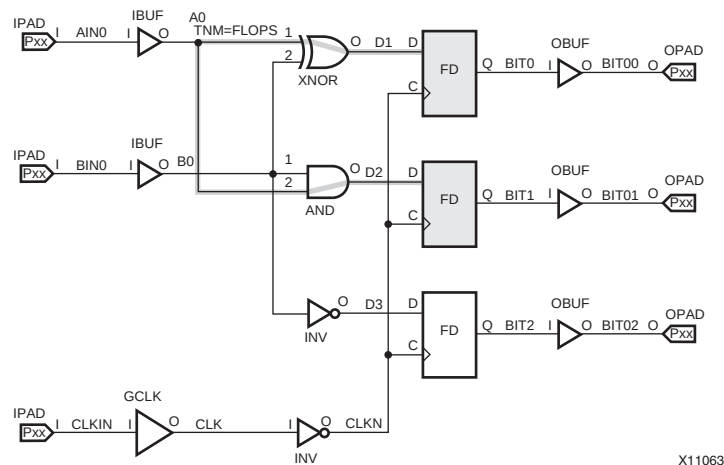

Figure 3-3: TNM on the CLK net traced through combinatorial logic to synchronous elements (flip-flops)
Flagging a common input (typically a clock signal or clock enable signal) can be used to group flip-flops, latches, or other synchronous elements. The TNM is traced forward along the path (through any number of gates, buffers, or combinatorial logic) until it reaches a flip-flop, input latch, or synchronous element. Those elements are added to the specified TNM or time group. Using TNM on a net that traces forward to create a group of flip-flops is shown in Figure 3-3, “TNM on the CLK net traced through combinatorial logic to synchronous elements (flip-flops).”
- Figure 3-3, “TNM on the CLK net traced through combinatorial logic to synchronous elements \(flip-flops\)”